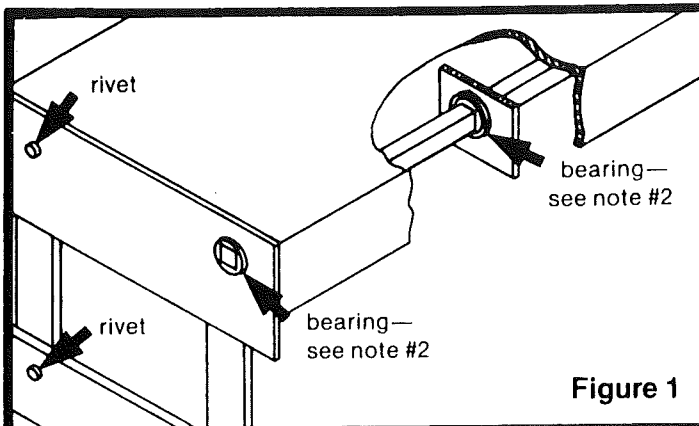

Figure 1
2. Figures 1 & 3 - square shaft bearing - lubricate around outside and under head of bearing.